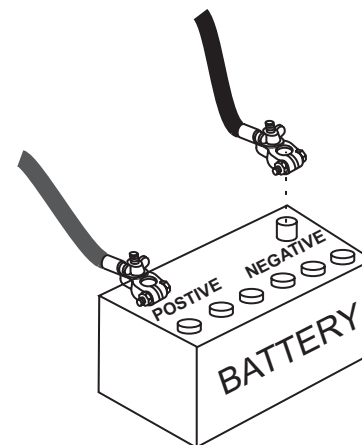

Figure 40. Battery Connections
3. Connect the negative battery cable (BLACK) to the negative post on the battery (Figure 40).